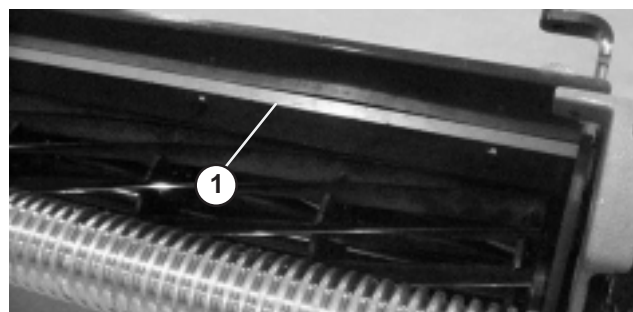

Figure 21
1. Loosen screws securing top bar (Fig. 21) to cutting unit.